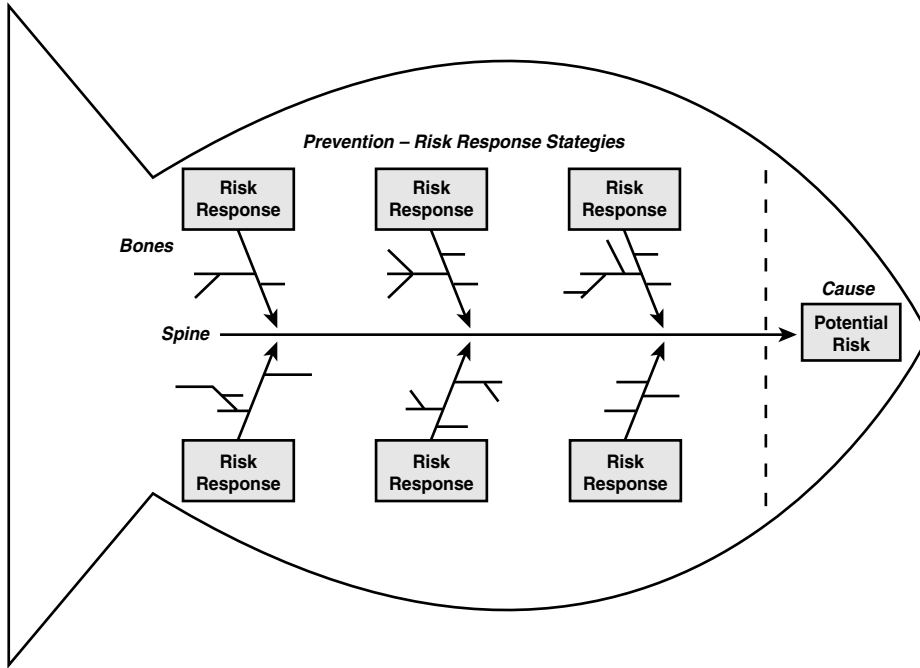

Figure C-9: Generic Cause and Prevention Diagram
- Step 2. Write the potential risk to the far right edge of the diagram and draw a box around the text to form the "head" of the fish, as shown in Figure C-9.